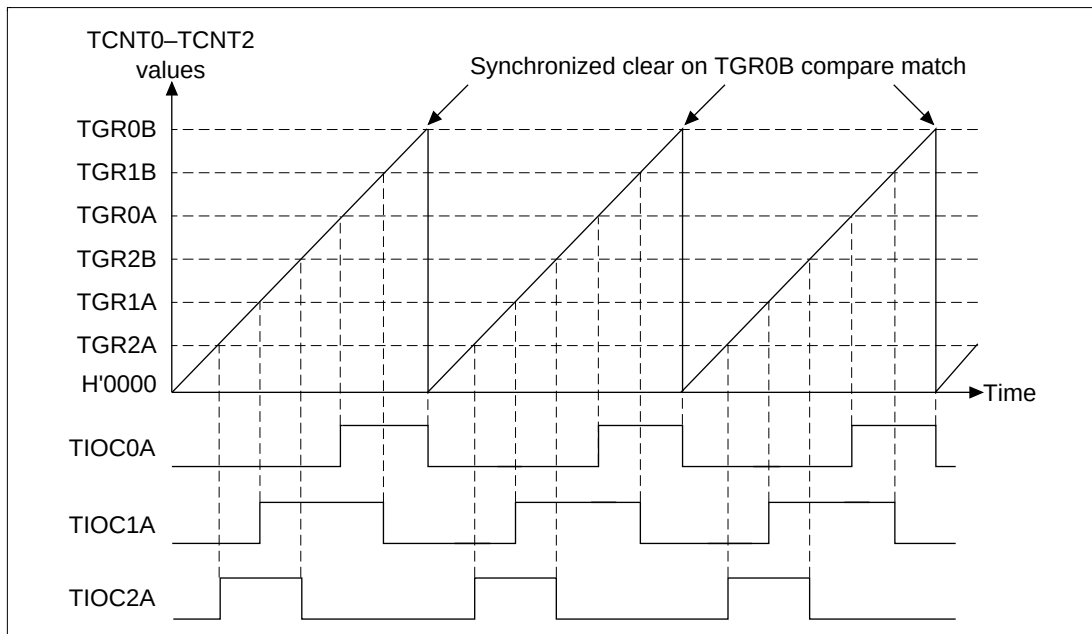

**Figure 12.16 Synchronized Operation Example**
**Synchronized Operation:** Figure 12.16 shows an example of synchronized operation. Channels 0, 1, and 2 are set to synchronized operation and PWM mode 1. Channel 0 is set for a counter clear upon compare-match with TGR0B. Channels 1 and 2 are set for synchronous counter clears by synchronous presets and TGR0B register compare-matches. Accordingly, a three-phase PWM waveform with the data set in the TGR0B register as its PWM period is output from the TIOC0A, TIOC1A, and TIOC2A pins.